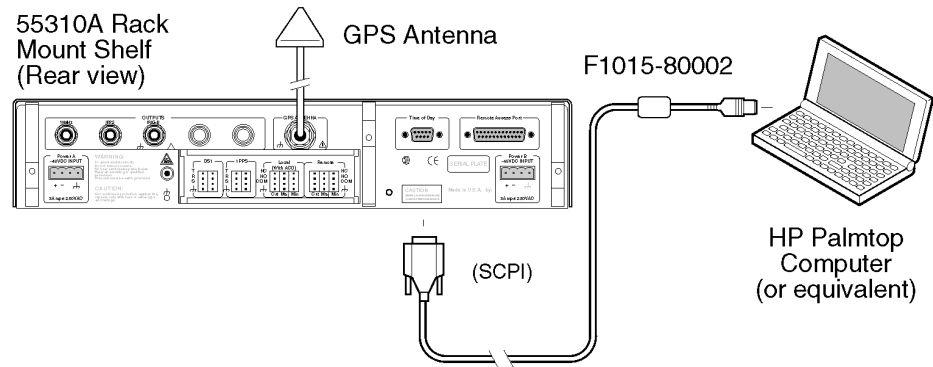

Figure 2-6C. Connecting the 55310A/55320A/55322A to a Palmtop to Use SCPI Commands for Communication (55310A shown)
*If you are going to use an HP 200LX (or equivalent) palmtop computer to communicate with the unit using SCPI commands, connect the unit to the palmtop via the rear-panel **TIME OF DAY** RS-232 port using the F1015-80002 cable as shown in Figure 2-6C.*